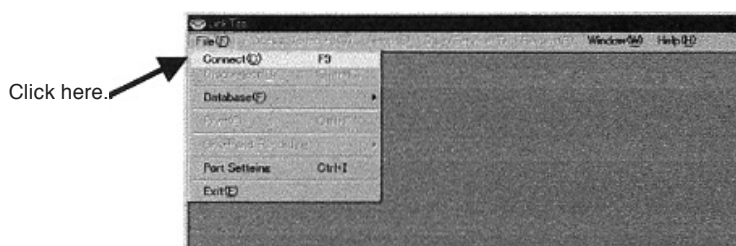

Fig.7
- ⑤ On setting the screen like the one shown in Fig. 7, click "Connect (C) F3" in "File (F)" at the top-level menu of screen.